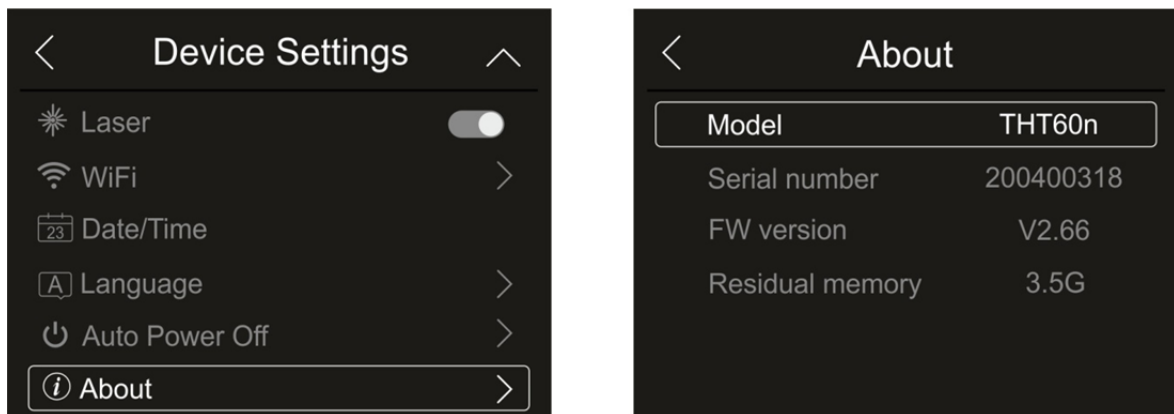

Fig. 21: Information on the instrument
1. Touch the item “About” to display the information about the instrument ad regards: model, serial number, internal Firmware version and available residual memory. The screen in Fig. 21 – right side appears on the display: